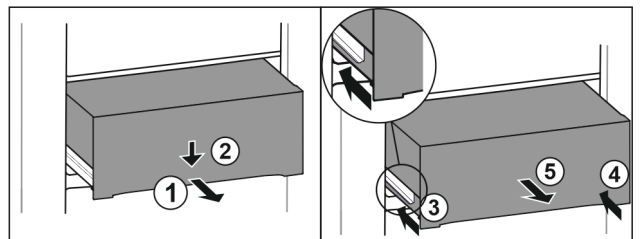

Fig. 81
- ▶ Pull out drawer half-way. Fig. 81 (1)
- ▶ Push the drawer down at the front. Fig. 81 (2)
- ▶ Push the left rail in by about 2 cm. Fig. 81 (3)
- ▶ Push the right rail in by about 2 cm. Fig. 81 (4)
- ▶ Remove drawer to the front. Fig. 81 (5)